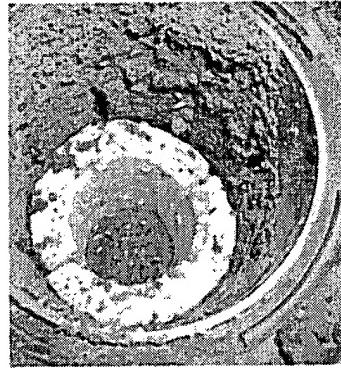

Fig. 2
- When termites are found in a station, (*Fig. 2*) the Termite Inspection Cartridge (TIC), containing no active ingredient, is replaced with a termite bait cartridge so termites can start feeding on the bait. (*Fig. 3*)